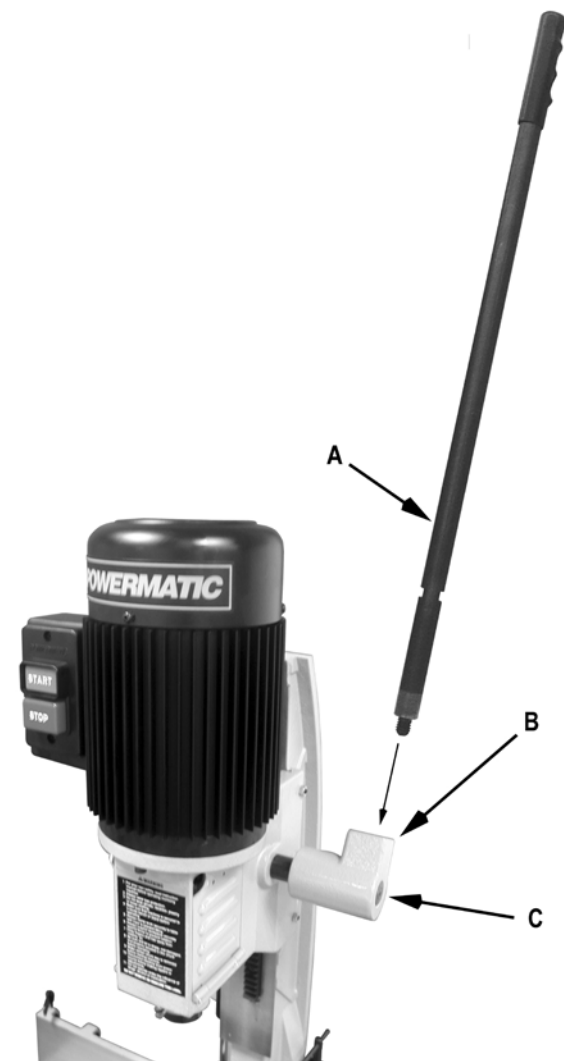

Figure 2
Referring to Figure 2:
- Loosen *lock lever* (B) and lower the *depth stop rod* (A) until it comes to rest on top of the *column stop* (C).
- With the *operating handle* (see Figure 2) lower the *head* (E) until the *chisel* (D) is at the desired depth.
- The *depth stop rod* (A) should still be resting on top of the *column stop* (C).
- Tighten the *lock lever* (B).